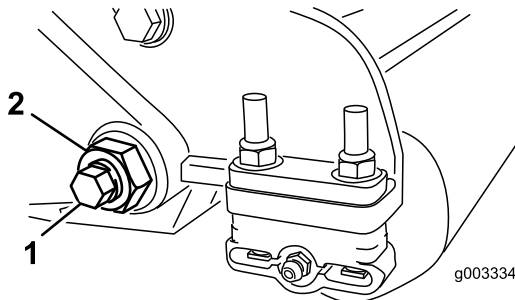

Figure 24
3. On each side of the machine, loosen the locknut securing the bedbar bolt (Figure 24).
4. Remove each bedbar bolt allowing bedbar to be pulled downward and removed from the cutting unit (Figure 24).